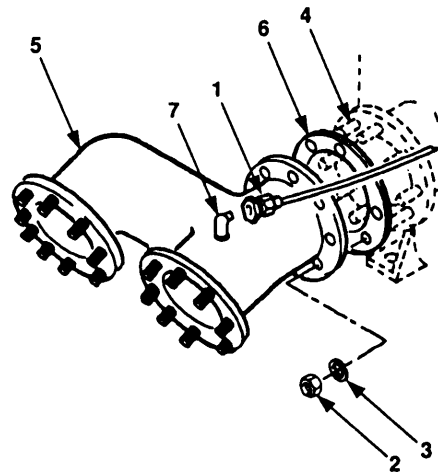

Figure 4-53. Suction Manifold Maintenance.
- a. Disconnect gauge hose(s) (figure 4-53, 1).
- b. Remove eight nuts (2) and lockwashers (3) from studs (4) of centrifugal pump.
- c. Remove suction manifold (5) from centrifugal pump.
- d. Remove and discard gasket (6).
- e. Remove fitting(s) (7) from suction manifold.
- a. Wrap fitting(s) (7) with antiseizing tape and install on suction manifold.
- b. Install gasket (6) over studs of centrifugal pump.
- c. Install suction manifold (5) on studs (4) of centrifugal pump.
- d. Install eight lockwashers (3) and nuts (2).
- e. Connect suction gauge hose(s) (1).